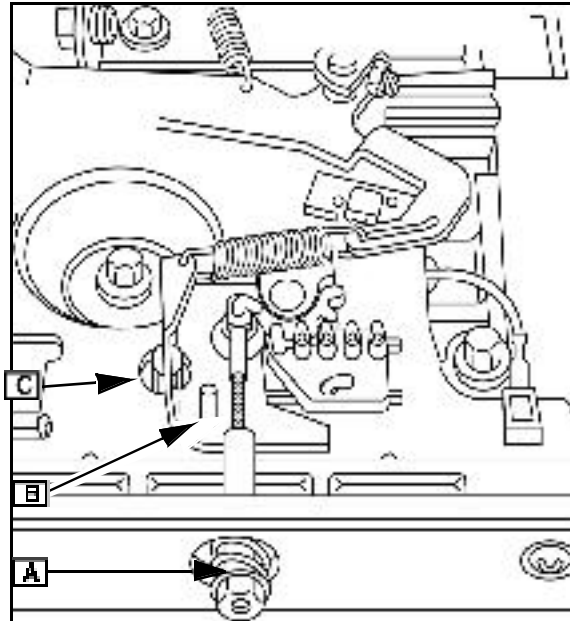

Fig. 40
1. Turn speed regulator nut (**A**) clockwise (CW) to align top no load holes in governor control lever gear and governor control plate.
2. Insert 0.125 in. (3.2 mm) diameter rod (**B**) Fig. 40).
3. Using tang bender tool (**C**) Fig. 40), bend governor spring tang to obtain proper top no load RPM.